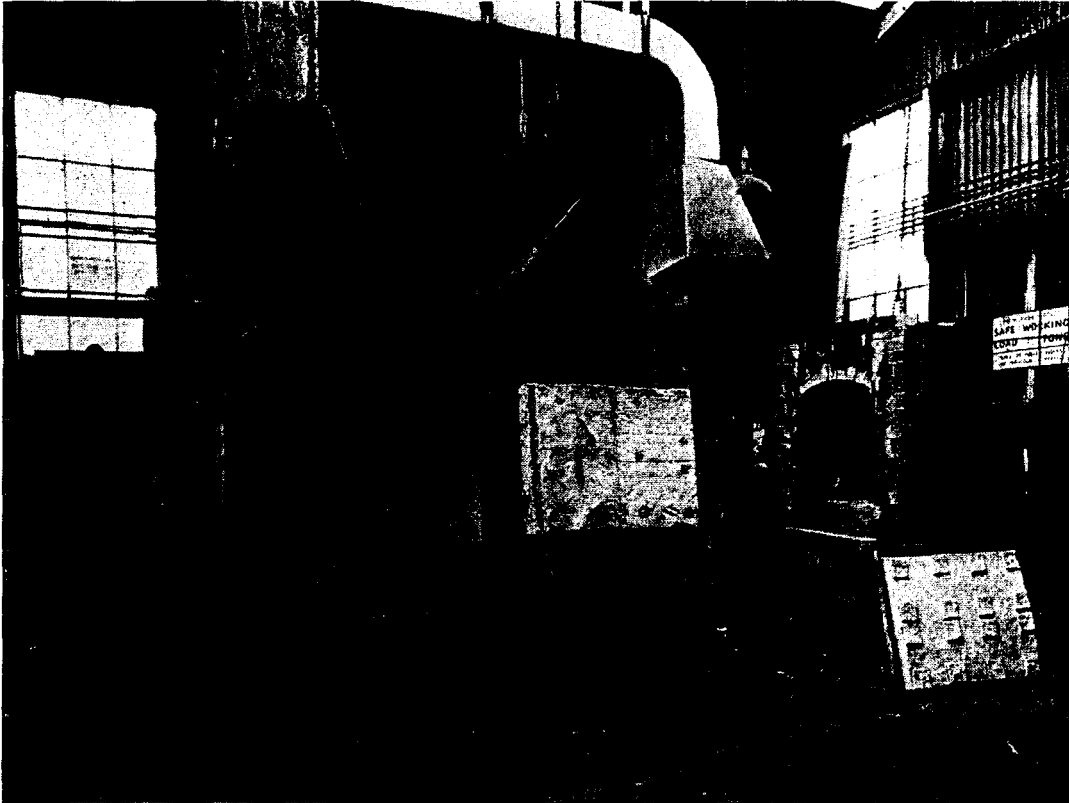

FIG. 3—FURNACE SYSTEM FOR MEASURING SPALLING RESISTANCE
- (d) A furnace system for measuring the spalling resistance of bricks. This is shown in FIG. 3. The right-hand furnace is a pre-heat furnace which keeps the brick under test at a hot face temperature of  $1600^{\circ}\text{C}$  for 48 hours. During this time some vitrification of the surface of the bricks will occur, the amount depending upon the quality and method of manufacture. After this, the panel is repeatedly heated and cooled by holding it in front of the left-hand furnace at  $1400^{\circ}\text{C}$  for 15 minutes, followed by 15 minutes of cold air being blown over the hot face at  $6000 \text{ ft}^3/\text{min}$ . Ten cycles of this treatment simulate many hundreds of hours service in a ship. Once the panel has cooled enough it is dismantled, and each brick is lightly scraped with a trowel. Spalled pieces of firebrick drop off and the percentage weight loss is the measure of resistance to spalling. Also in this picture can be seen two of the ceramic fibre test panels. The one in the centre shows a trial which used four square modules of blanket glued on to the casing and, in the right-hand panel, the protective patches mentioned under the heading 'Ceramic Fibres' can be seen.